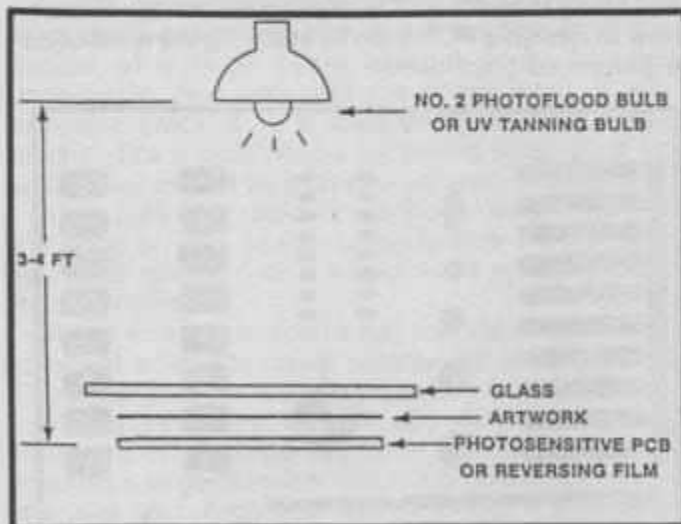

Figure 7. This contact-printing setup can be used to expose either a photosensitive PCB or a sheet of reversing film.
The tape-up process results in artwork that is a positive image of the circuit; that is, the opaque areas correspond to copper conductors. Most of the time, this is precisely what we want. However, there are occasions when you might need a negative image, and this can be obtained by making a contact print of the artwork, as shown in Figure 7. The taped side of the artwork is placed in contact with the emulsion side of a reversing film, then covered with glass and exposed with a No. 2 photoflood lamp. Finally, the film is developed, and a negative is obtained. Kepro Circuit Systems sells a green reversing film intended expressly for PCB work. No darkroom is required, and the film is easily developed in ethyl alcohol. Since the peak light sensitivity of the Kepro film falls in the near ultraviolet region of the spectrum, an ordinary UV tanning lamp can be used instead of a No. 2 photoflood lamp, resulting in reduced exposure times. Complete directions accompany the film, so we won't say any more about it here.
**Step 3.** The image of the artwork is transferred to the resist on our PCB by means of the contact-printing apparatus shown in Figure 7. The artwork is placed tape-side-down on the emulsion-coated surface of the PCB, covered with a heavy piece of glass, and exposed for a suitable length of time under a No. 2 photoflood lamp or UV lamp. Exposure time depends on the intensity of the bulb, the distance between the bulb and the PCB, and the sensitivity of the photoresist. Typically, 10-20 minutes are required; you should make a series of test exposures at one- or two-minute intervals to find the optimum value. Moving the bulb closer to the board decreases the exposure time, but it also warms the resist, causing it to soften and stick to the artwork. A minimum distance of 3-4 feet is therefore recommended.